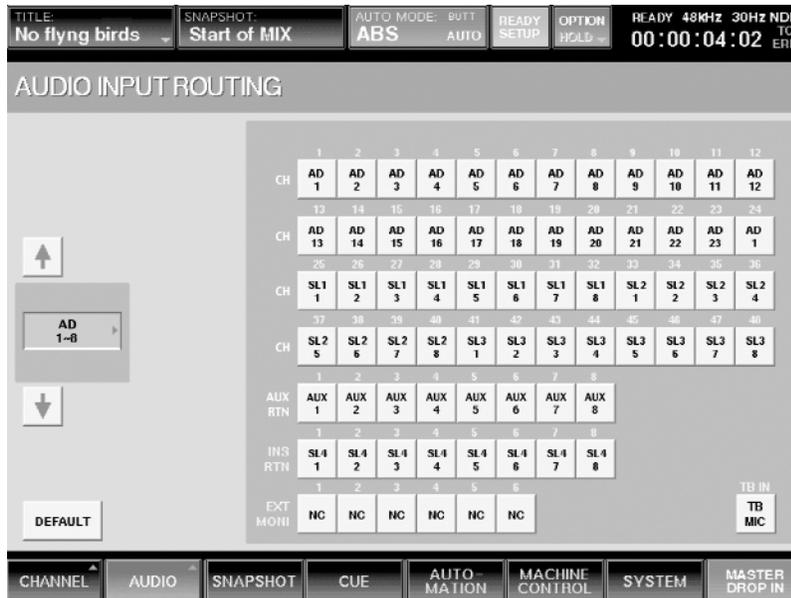

Figure 16
- To complete the patching, press a Channel button at the right of the screen to assign the selected input to that channel. For example, press the AD 1 input, and then press Channel 24. The signal connected to the first head amp will now appear on input channel 24. (See Figure 16)